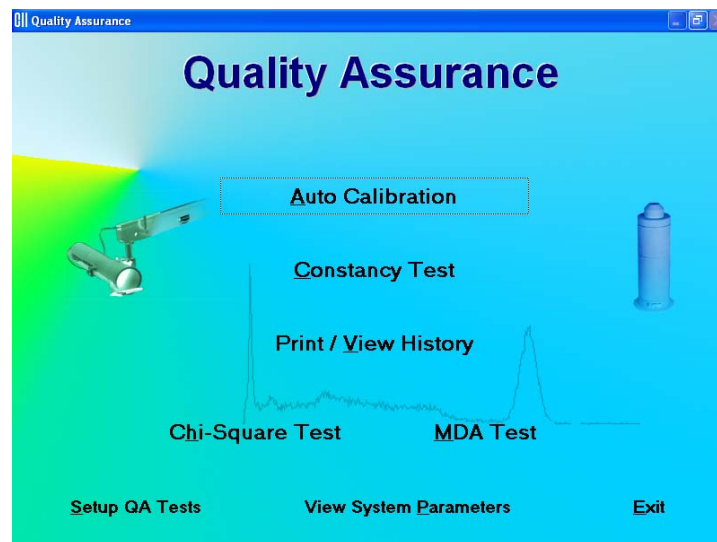
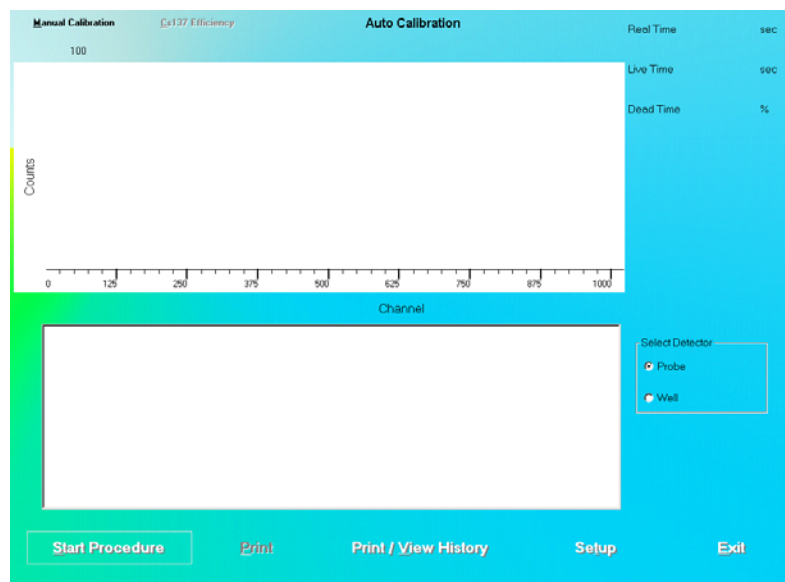
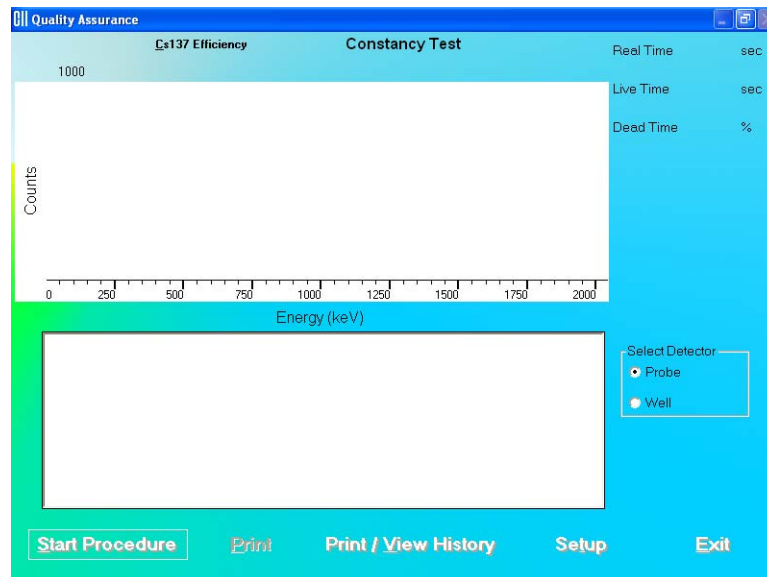

Figure 5-1 Quality Assurance Main Screen
Figure 5-3 Auto Calibration Screen
Figure 5-11 Constancy Test Main Screen
To access the QA tests, click the Quality Assurance button or press *Alt+Q* on the CAPTUS 3000 Main screen. Figure 5-1 Quality Assurance Main Screen appears as shown.
The following tests require setting up parameters prior to performing the test: Constancy Test, Chi-Square Test and MDA Test. This can be done via the QA Setup screen, which is accessible through the **Setup QA Tests** button at the bottom of Figure 5-1 Quality Assurance Main Screen or through the **Setup** button provided on all QA Test screens.
1. Click the **Setup QA Tests** button or press *Alt+S* on Figure 5-1 Quality Assurance Main Screen. Figure 5-2 Quality Setup Screen appears as shown.
5. Click the **Done** button or press *Alt+D* to save the changes or click the **Cancel** button to cancel the changes made and return to Figure 5-1 Quality Assurance Main Screen.
- Rest your mouse close to each module title on Figure 5-1 Quality Assurance Main Screen to read a brief description of that function.
- Keep a record of the parameters set above. To do so, click the **View System Parameters** button on Figure 5-1 Quality Assurance Main Screen and click the **Print** button.
1. Click the **Auto Calibration** button or press *Alt+A* on Figure 5-1 Quality Assurance Main Screen. Figure 5-3 Auto Calibration Screen will appear. When the procedure is started, the spectrum appears in the upper half of the screen as it is being collected and displays the measurement time elapsed in the upper right corner. Note that the **Cs137 Efficiency** button at the top of the screen is enabled only after calibration has been done at least once on that day.
16. Click the **Exit** button or press *Alt+E* to exit and return to Figure 5-1 Quality Assurance Main Screen.
1. Click the **Constancy Test** button or press *Alt+C* on Figure 5-1 Quality Assurance Main Screen. Figure 5-11 Constancy Test Main Screen will appear.